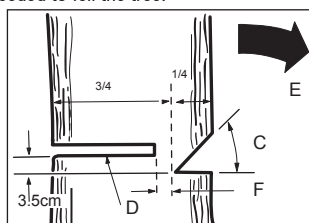

FIG. 1
Usually, felling a tree consists of two main cuts, the face cut (C Fig.1) and the undercut (D. Fig. 1), which is needed to fell the tree.
- Begin with the face cut (C) on the side of the tree facing the direction of the fall (E).
- The cut must be as deep as about 1/4 of the trunk diameter (F).
- After this operation, make the cut (D) on the other side of the tree at about 3-5 cm above the height of the face cut (Fig. 1).